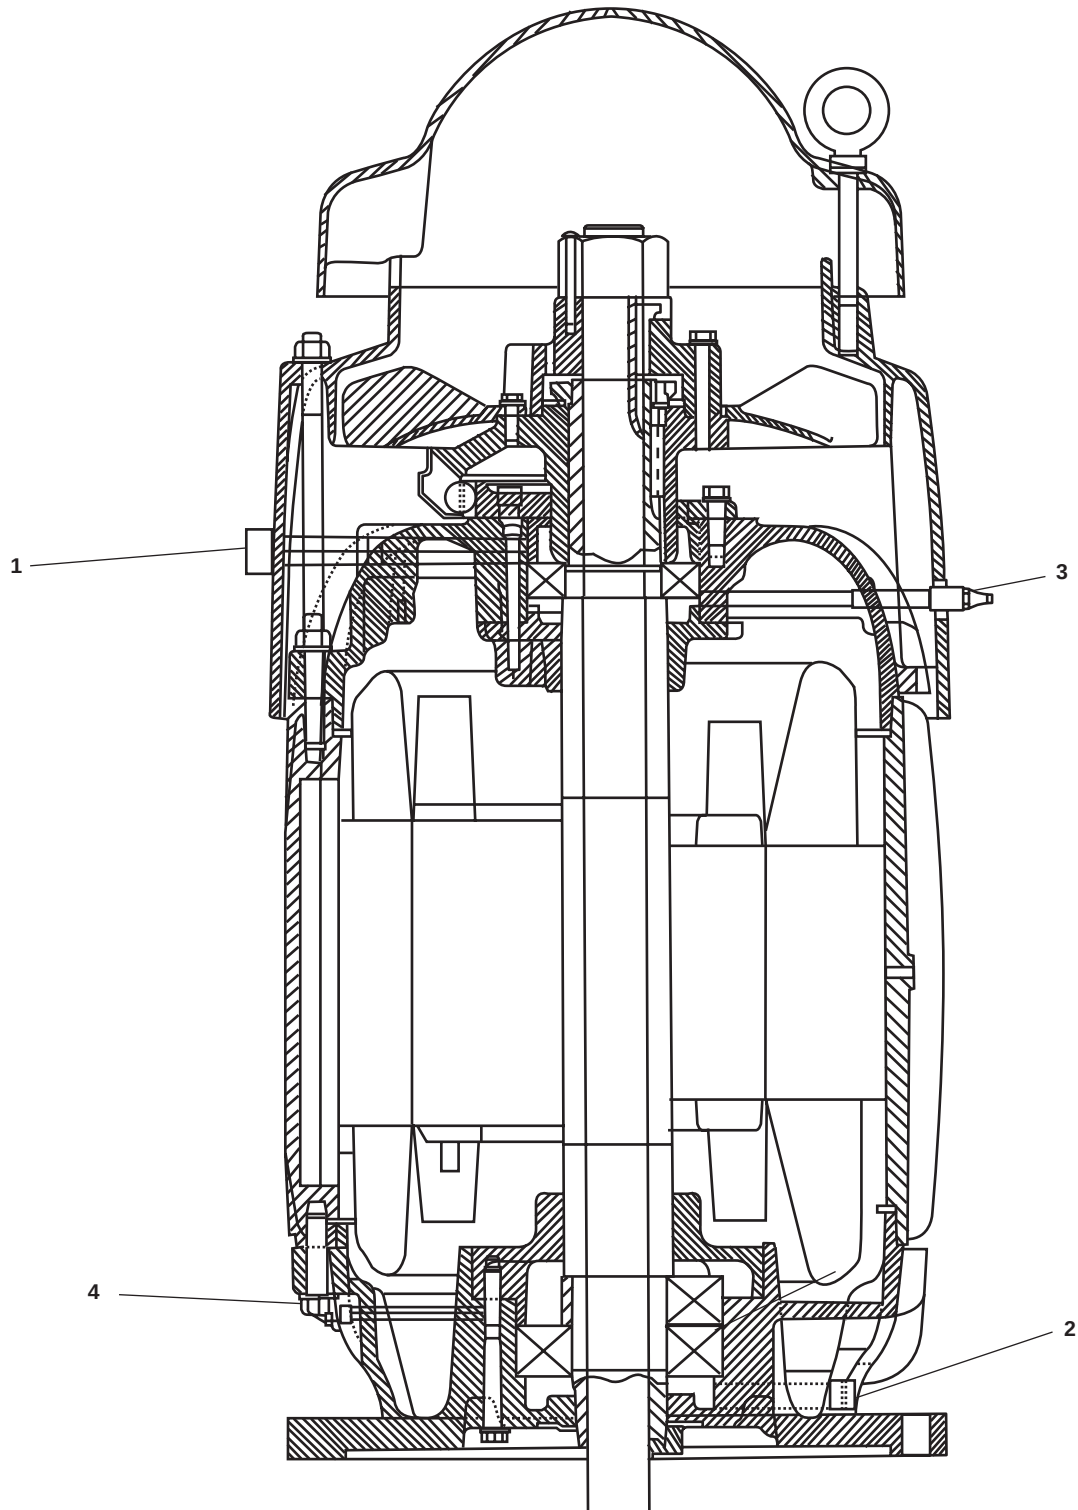

Figure 2. Electric Motor
3. Remove the grease drains (figure 2, items 1 and 2).
4. Add 0.4 ounce (12 cc) of new general purpose grease into the upper grease fitting (figure 2, items 3) using a lubricating gun. Wipe any excess grease from the grease fitting using a wiping rag.
5. Add 0.6 ounce (18 cc) of new general purpose grease into the lower grease fitting (figure 2, items 4) using a lubricating gun. Wipe any excess grease from the grease fitting using a wiping rag.
6. Leave out the grease drains (figure 2, items 1 and 2) and perform the Follow-On Service procedure at the end of this work package.